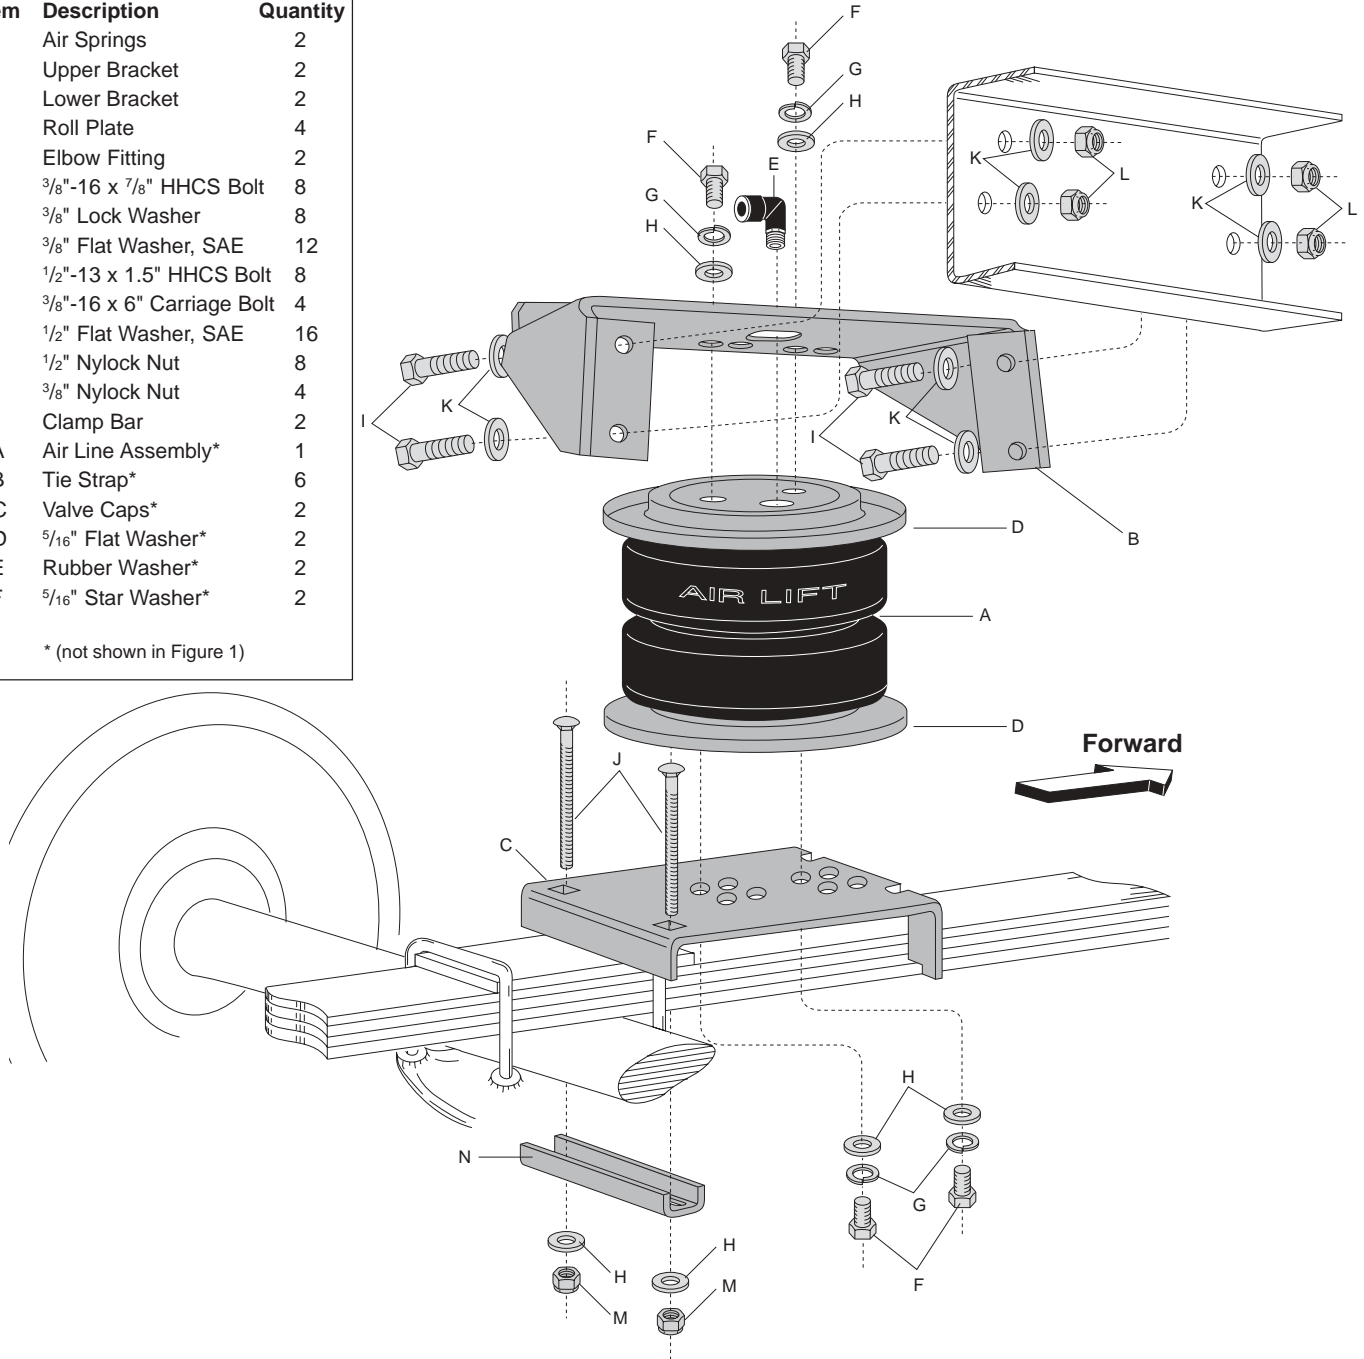
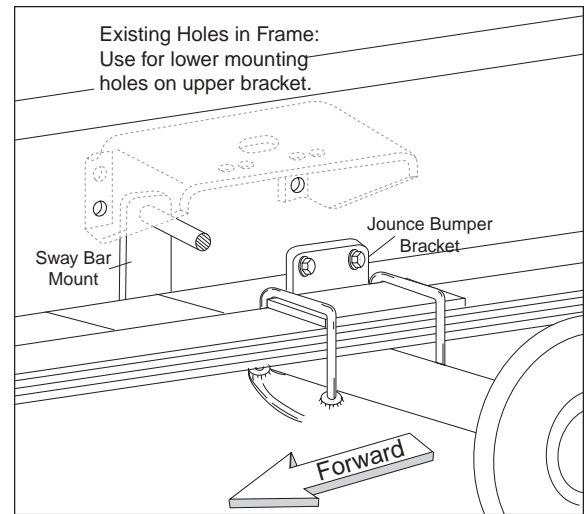

Figure 1
Figure 4
* (not shown in Figure 1)
5. Upon determining the correct mounting holes on the lower bracket, insert two carriage bolts (J) into the lower bracket (Figure 1). Attach the air spring assembly to the lower bracket using two $\frac{3}{8}$ " bolts (F), lock washers (G), and flat washers (H). Refer to Figure 1. Tighten bolts to 20 ft-lbs.
NOTE: *The rear of the lower bracket should hook around the forward U-bolt (Figure 1).*
2. Using the existing holes in the frame (Figure 4), loosely attach the upper bracket (B) with a $\frac{1}{2}$ " HHCS bolt (I), two $\frac{1}{2}$ " flat washers (K), and a $\frac{1}{2}$ " nylock nut (L) through both of the lower mounting holes in the upper bracket (Figure 1).
NOTE: *The rearward existing hole in the frame is located directly over the jounce bumper bracket. Also, the upper bracket goes around the sway bar mount (Figure 4).*
5. Use a $\frac{1}{2}$ " HHCS bolt (I), two $\frac{1}{2}$ " flat washers (K), and a $\frac{1}{2}$ " nylock nut (L) in each upper hole to secure the bracket to the frame (Figure 1). Tighten to 80 ft-lbs
6. Attach the lower bracket to the leaf spring using the clamp bar (N), flat washers (H), and nylock nuts (M). Tighten the carriage bolt hardware to 16 ft-lbs (Figure 1).